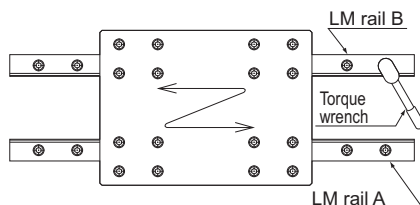

Fig. 28
- (4) Move the table a few strokes to warm up the LM blocks, then fully fasten LM rail B using a torque wrench. (Fig. 28)